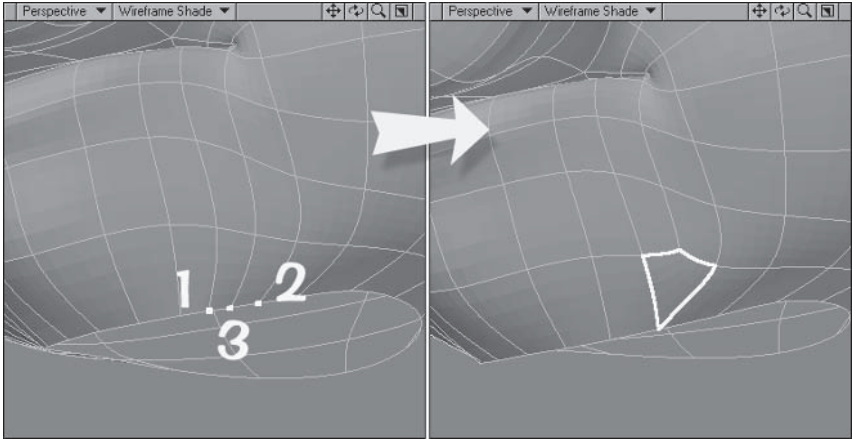

Figure 5.3-125. Refining the geometry.
- 2. Now we have more detail in the chin than we want for the body, so let's optimize. Turn off **Symmetry**, then **Weld** the three points shown in Figure 5.3-125. Select the resulting two triangles and **Merge Polygons**. Repeat for the other side.